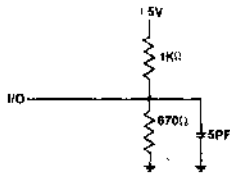

Figure 2 - Transition Load
6. Transition is measured $\pm 200\text{mV}$ from steady state voltage with specified loading in Figure 2.